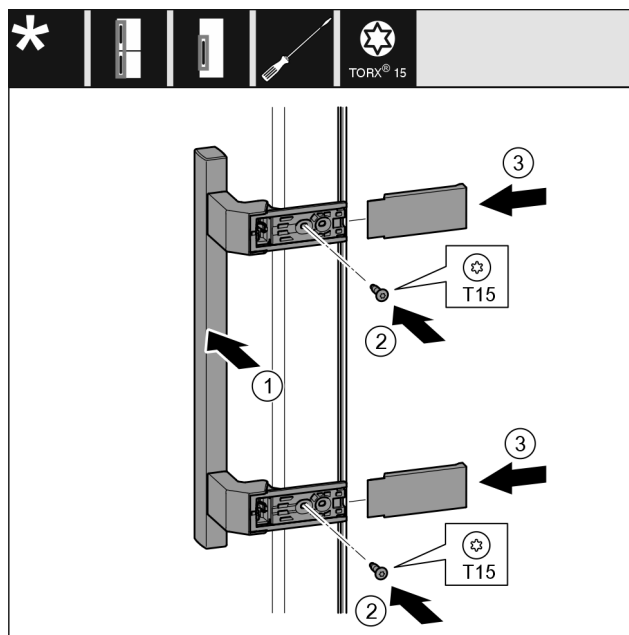

Fig. 19
- ▶ Place the handle Fig. 19 (1) on the opposite side.
- ▶ Tighten screws Fig. 19 (2) with screwdriver.
- ▶ Place the covers Fig. 19 (3) on the side and push them on.